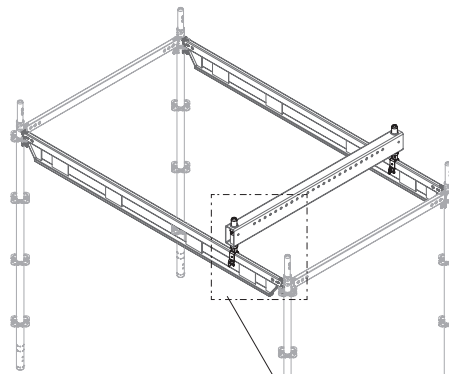

Fig. A8.02
- does not marry up with that of the load-bearing substructure, variant 2 (Fig. A8.02).
- (Fig. A8.02)